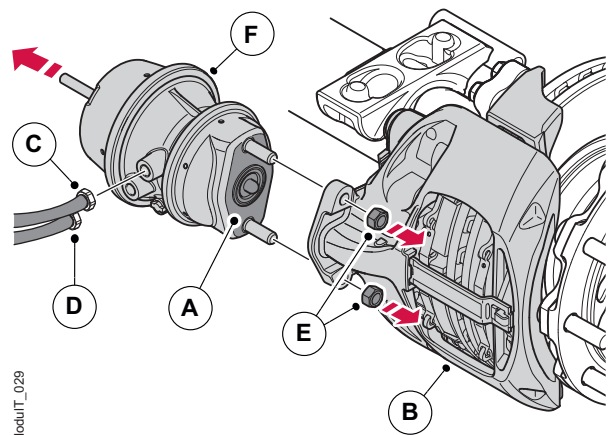

Figure 37. Removal of brake chamber items
2. If applicable ensure that the spring brake chamber (F) is fully disengaged and mechanically secured in the released position. See figure 37.
3. Ensure that the brake chamber (A) is depressurised.
4. Mark and remove the hose connections of the service brake (C) and if applicable the parking brake (D).
5. Remove the two nuts (E) holding the brake chamber. Remove the brake chamber (A) from the calliper (B).